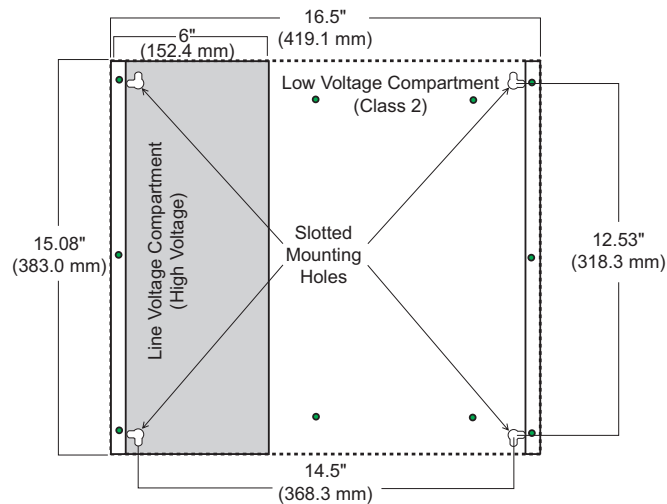

Figure 2: LP8 Enclosure dimensions, mounting holes, location of line and low voltage wiring compartments
6. Determine the appropriate wire entry locations. Make sure that all line and low voltage wiring entry locations are confined to the appropriate compartments as shown in Figure 2 or 2a as appropriate.